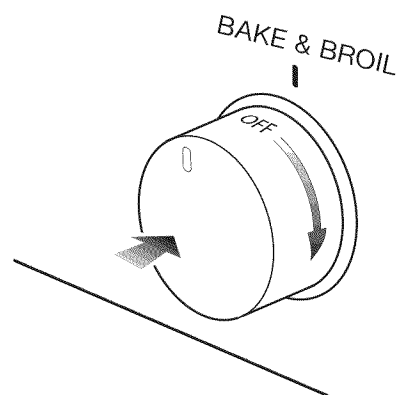

Fig. 3.4
2. Press the oven control knob right down (the igniters will start 'clicking') turn the knob clockwise (fig. 3.4) to the "BROIL" position.